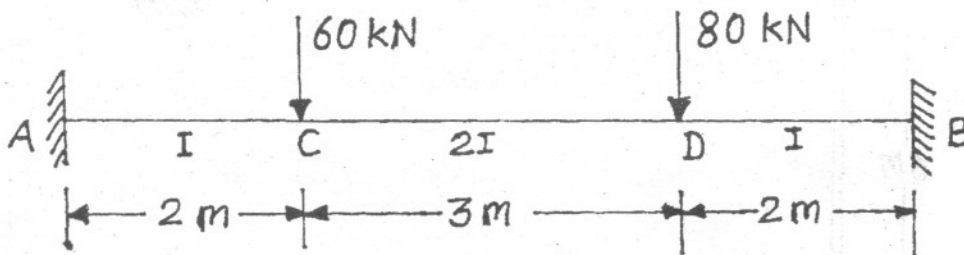

Fig. 4
3. (a) Determine the fixed end moment for the fixed beam loaded and supported as shown in Fig. 4. Draw S.F. and B.M. diagram. [8]